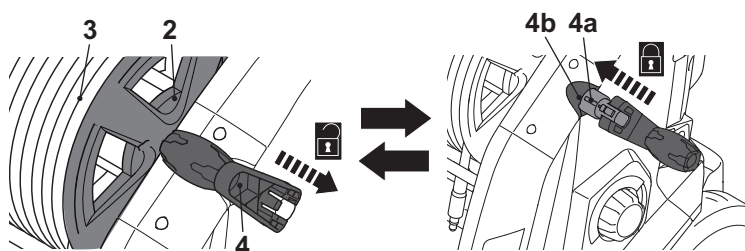

Fig. 17
1. Pull out the winding handle (4) from the housing and unfold it to unlock the hose reel (2) and itself (Fig. 17).
2. Pull out the pressure hose (3) from the hose reel (2) for operation.
3. Turn the winding handle (4) clockwise to wind up the pressure hose (3) for storage. Release the pressure in the hose before winding up the hose: turn product off using the control dial and press gun trigger until the pressure is released.
Use the supply cord holder (12) to store the supply cord (11) (Fig. 17).